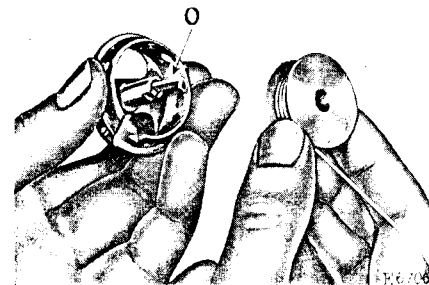

FIG. 10
Hold the bobbin between the thumb and forefinger of the right hand, as shown in Fig. 10, the thread drawing on the bottom from the left toward the right.
With the left hand hold the bobbin case as shown in Fig. 10, the latch (O) being open, and place the bobbin into it.